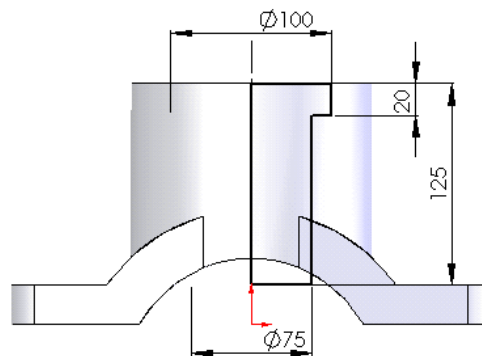

Figure 5-98 Fully defined sketch for the contour bore
- Create a contour bore using the cut revolve option, refer Figures 5-98 and 5-99.
The sketch after applying the required relations and dimensions is shown in Figure 5-98.